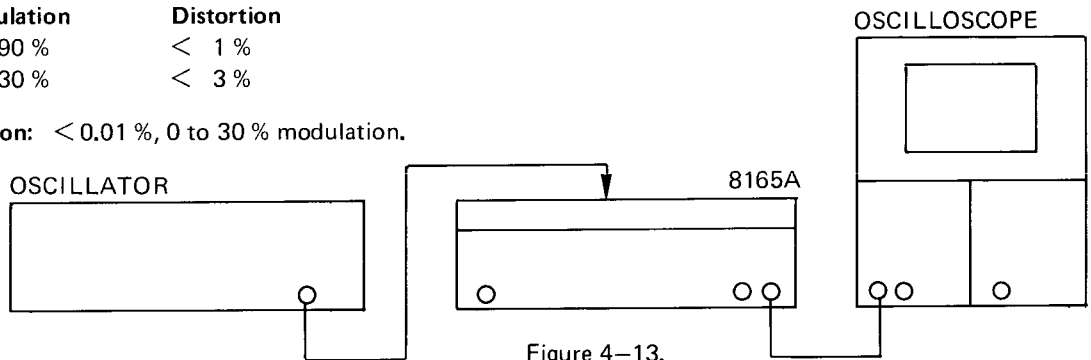

Figure 4-13.
1. Connect the equipment as shown in Figure 4-13.